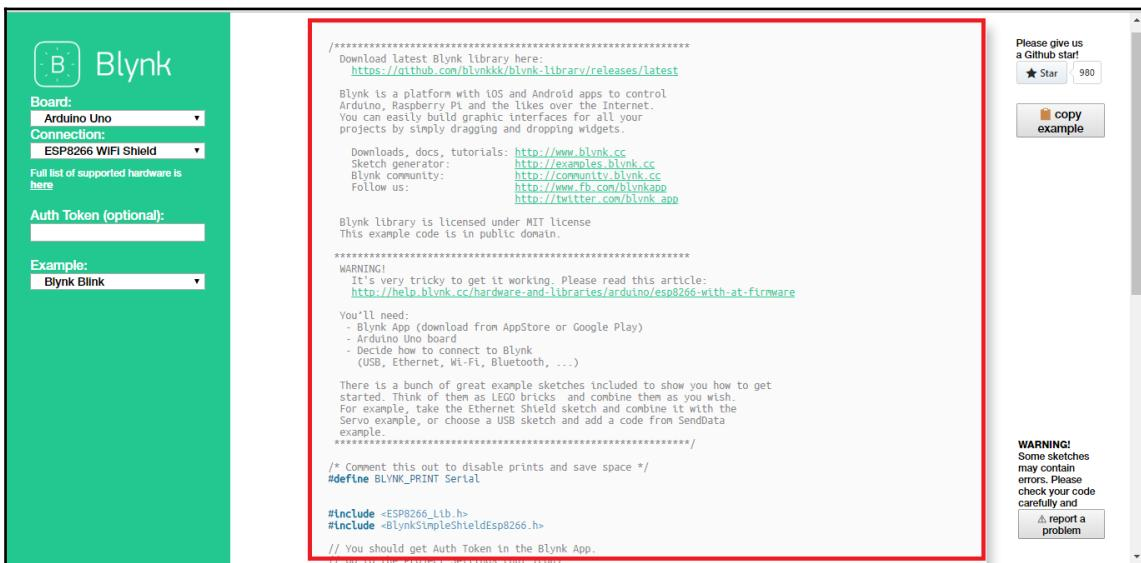

Figure 2.32: Sketch section
5. The example sketch will generate and show in the middle section of the window (*Figure 2.32*):